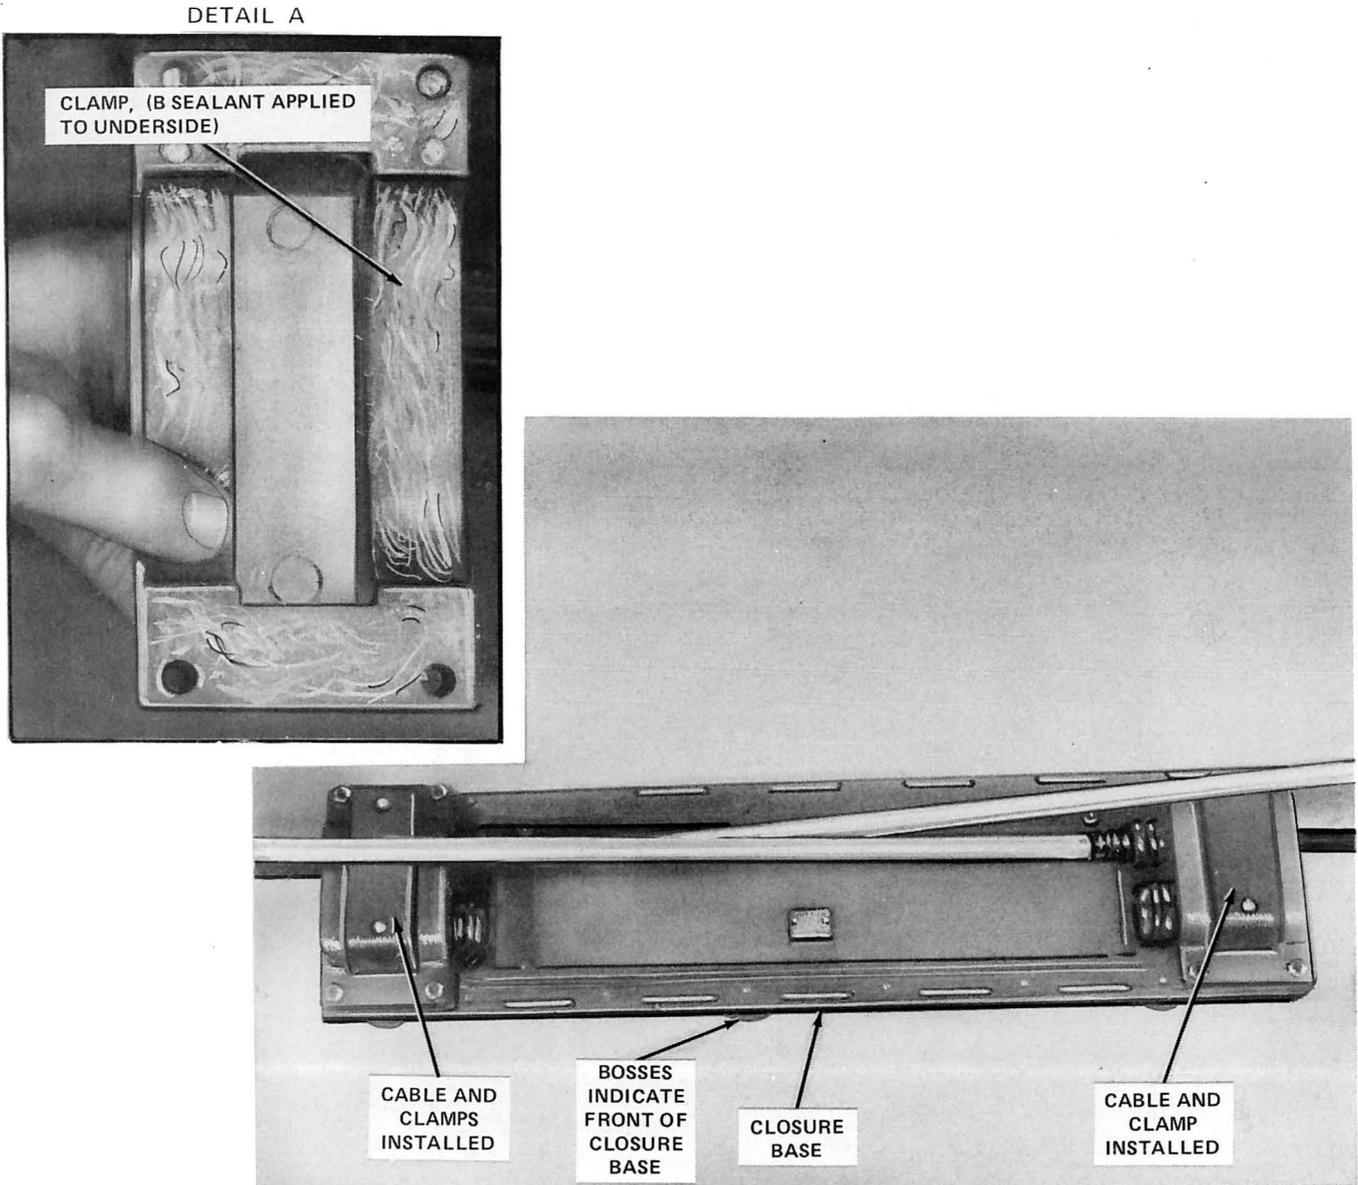

Fig. 39—Cable Placement Completed
5.06 Apply B sealant to the underside of the clamp on the areas which contact the closure gasket. (See Fig. 39, Detail A.) With sealant applied to the clamp, place the clamp over the closure gasket and bolt the clamp to the closure base, using four bolts as shown in Fig. 39. Repeat this procedure for the opposite end. Torque the eight bolts to 75 inch-pounds.